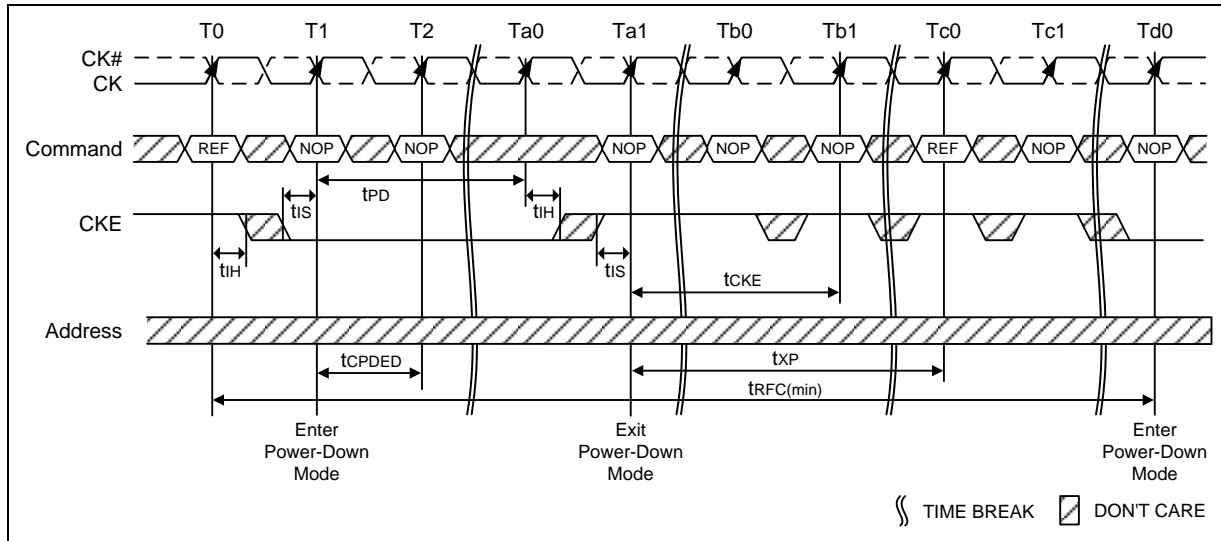

**Figure 70 – Power-Down Entry/Exit Clarifications - Case 2**
2)  $t_{XPDLL}$  must be satisfied (referenced to the registration of PD Exit) before the next power-down can be entered. A detailed example of Case 2 is shown in Figure 70.